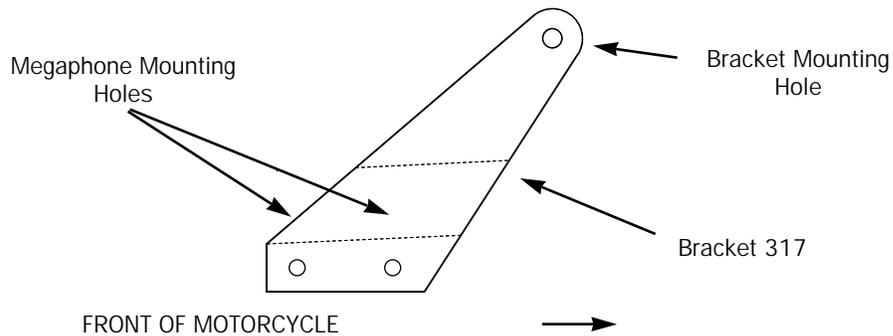

FIG. 1
1. Install the new mounting bracket (stamped 317) to the inside of the stock muffler mounting point (Refer to FIG. 1).